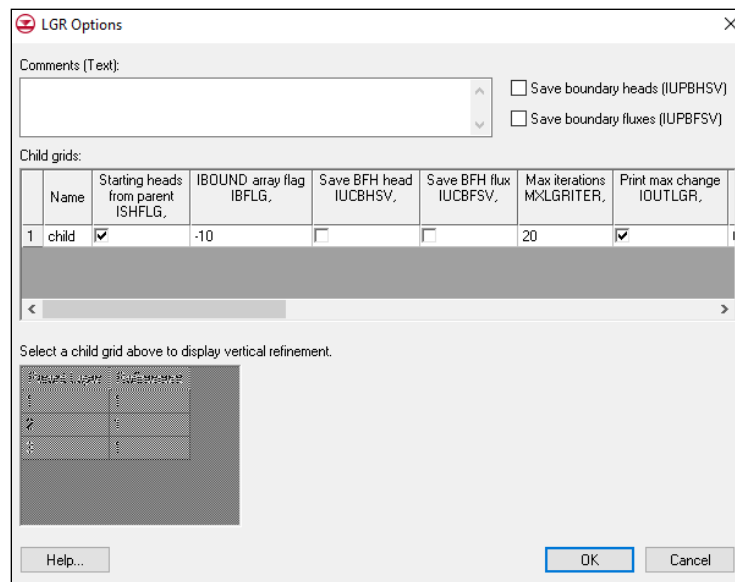

Figure 10 LGR Options dialog
3. Click **LGR Options...** to bring up the *LGR Options* dialog (Figure 10).